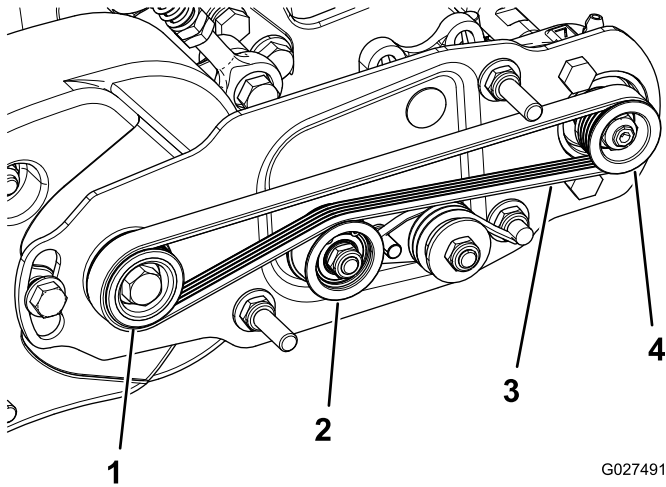

Figure 13
- Loop the belt around the **drive** pulley and then over the top of the idler pulley (Figure 13).